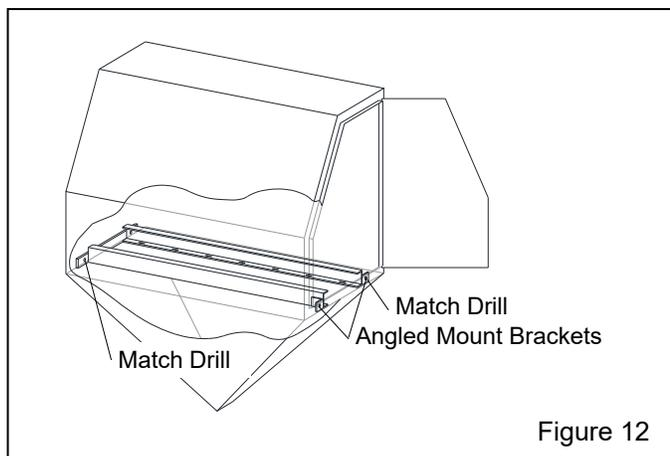

Figure 12
**3.5.3** Center the track and table assembly inside the cabinet on top of the grate. Make sure the two angled mounting brackets are facing toward the door from which the table will slide, refer to Figure 12.